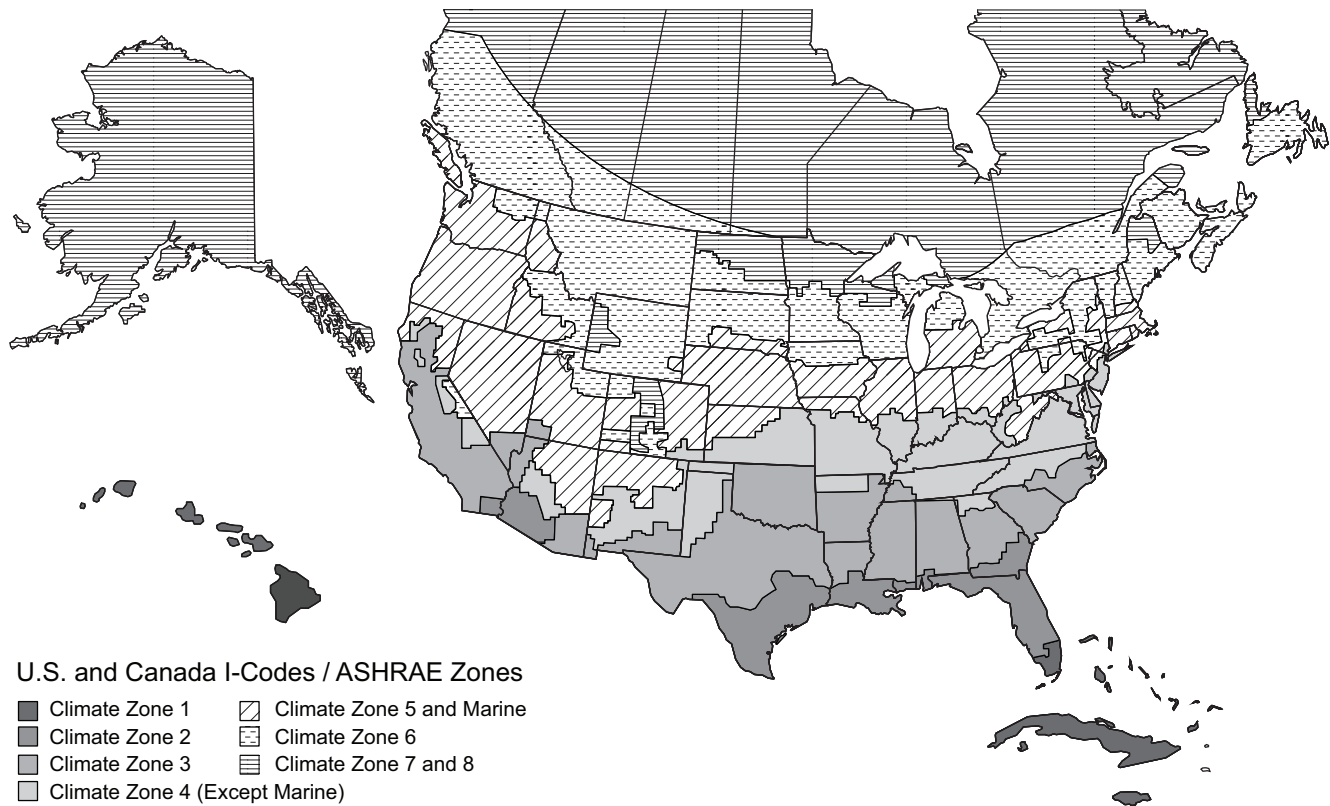

Fig. 78 — U.S. and Canada Climate Zones
- a. See Fig. 78 for map of U.S. and Canada climate zones.